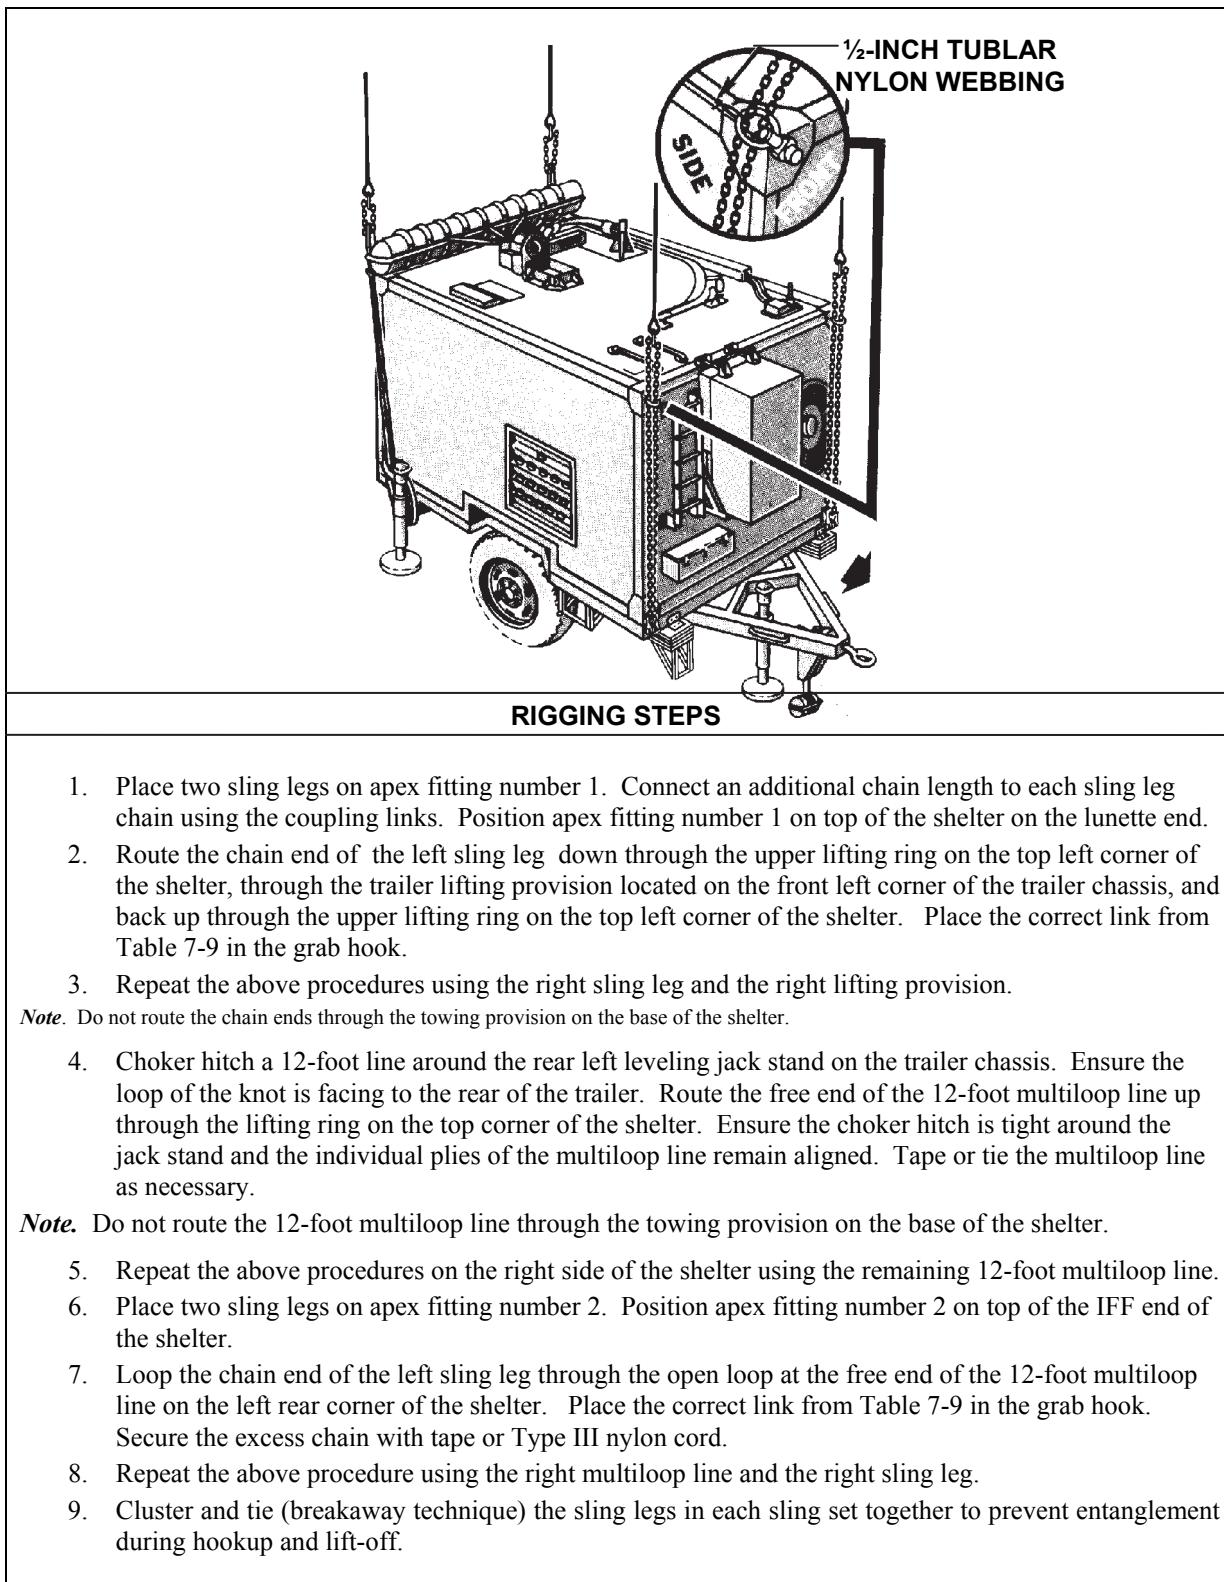

Figure 7-9. Platoon Command Post/Battery Command Post
- **Rigging.** Rig the load according to the steps in Figure 7-9.